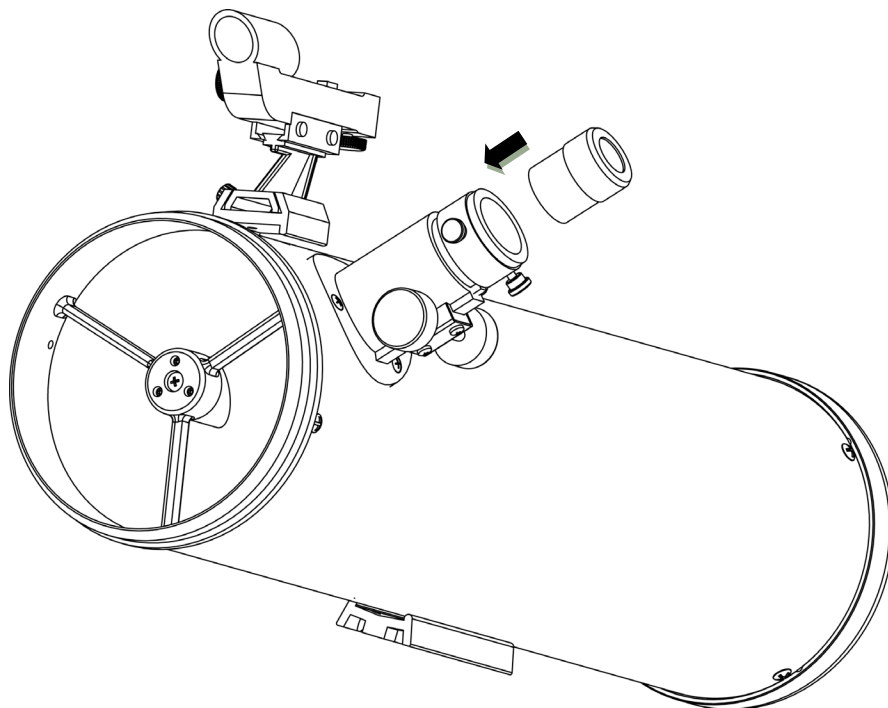

Fig.20
2. Inserting Eyepiece for Reflector (Fig.20)